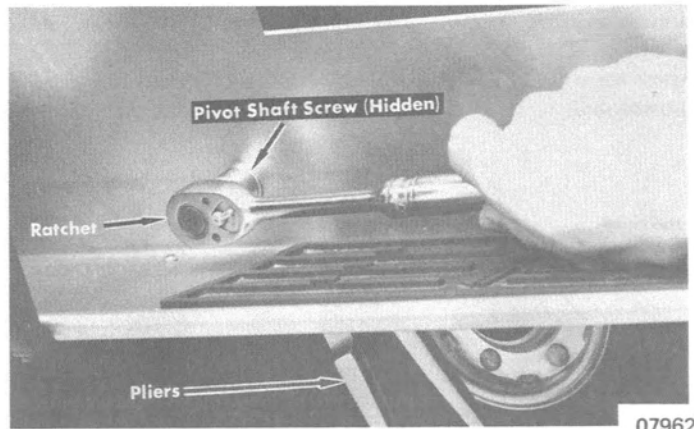

Figure 2. Bogie Wheel Assembly Removal
6. Hold exposed section of pivot shaft with a pair of vise-grips or pliers and remove remaining pivot shaft screw. (Figure 2)